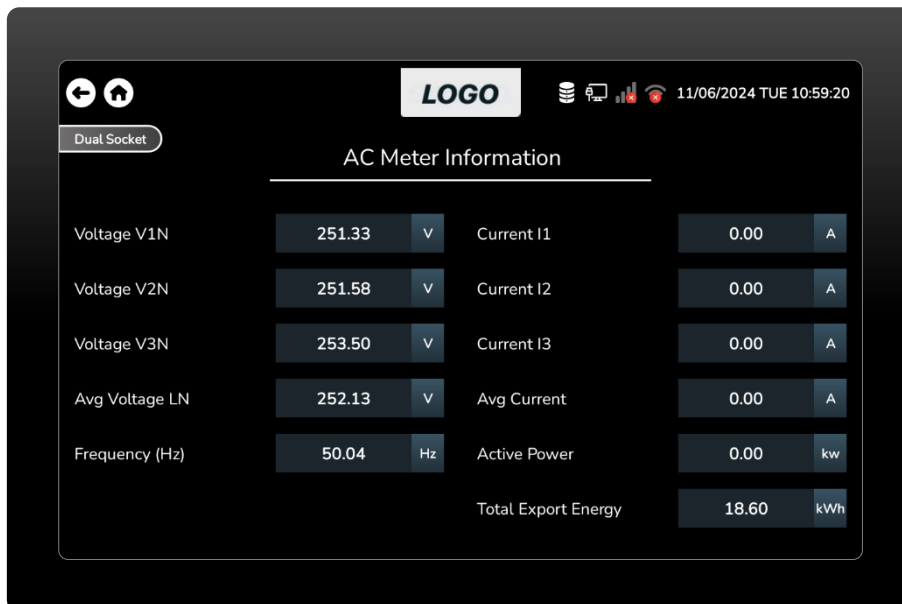

Figure 65 AC Meter Information Screen.
- This is the AC metre information screen, where the user can view information such as voltages, average voltage, frequency, currents, average current, active power, and total export energy. (Figure 65)